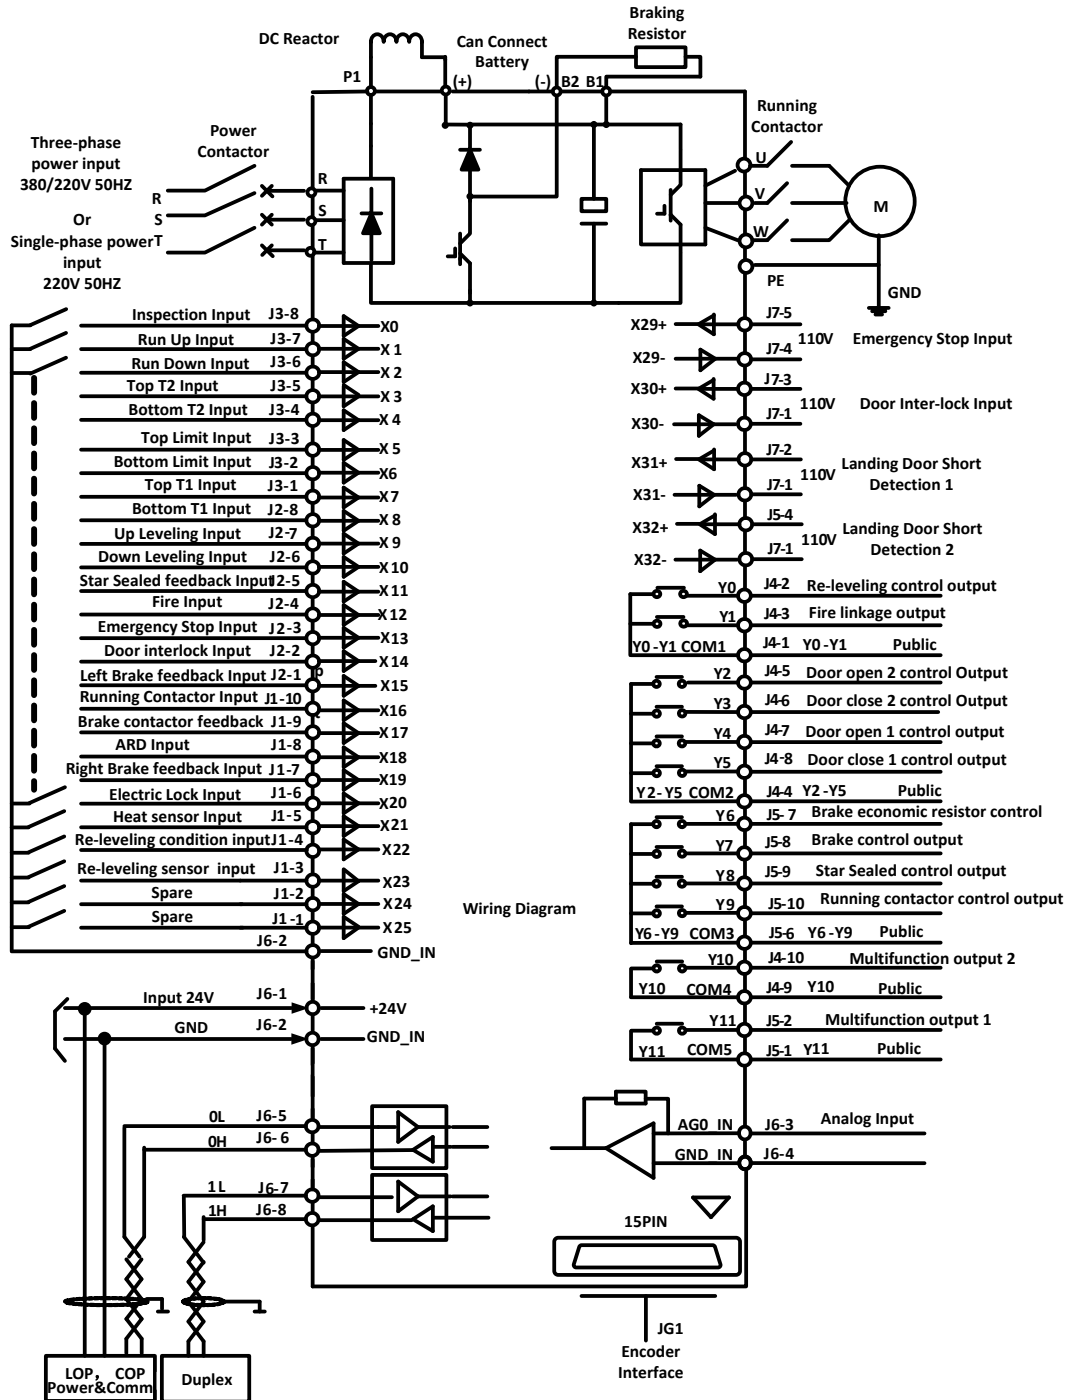

Figure 3.1 Terminal wiring Diagram for Elevator integrated controller
3.3.2 Terminal Connection for Control Circuit (Figure 3.1)